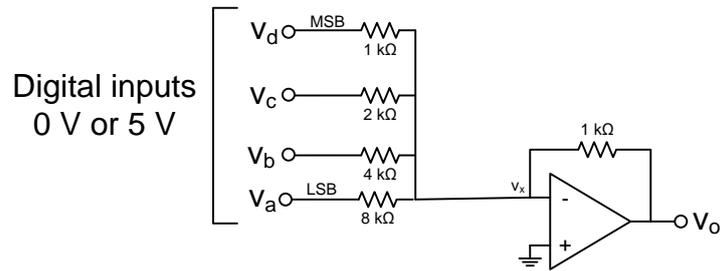

Figure 3: DA converter using summing op-amp.
- (5p) (f) A summing DA converter is shown in Figure 3. What is the output voltage of this DA converter when the binary input 0010 is applied to it?